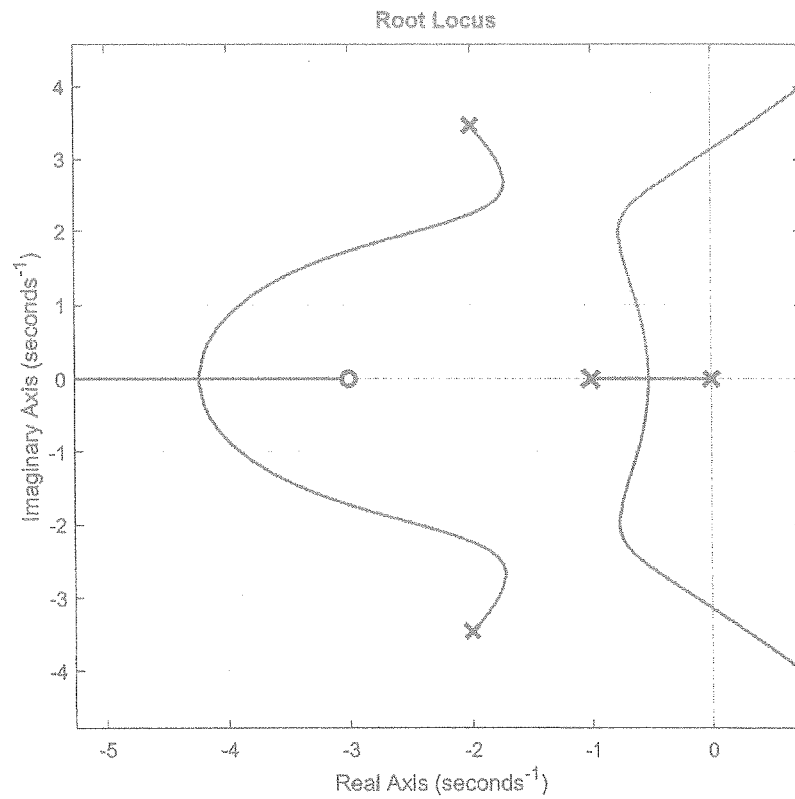

Figure Q2
b) Figure Q2 shows a root locus of a linear time-invariant system. Obtain open loop zeros and open-loop poles of the system and derive the transfer function.